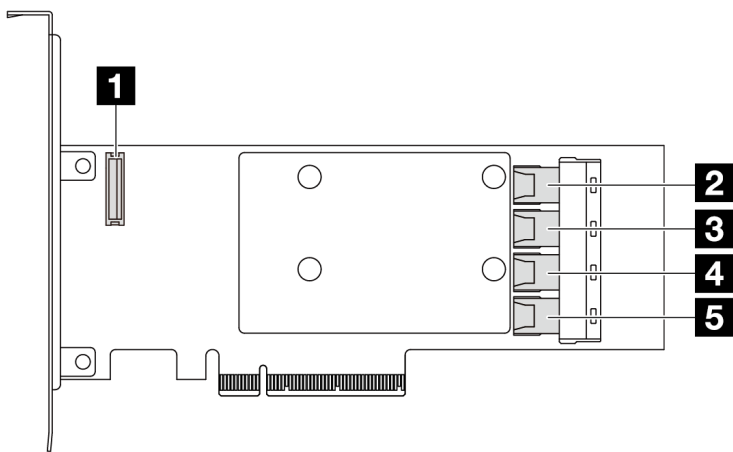

Figure 219. A Gen 3 16i SFF RAID/HBA adapter (four port connectors)
- Figure 219 “A Gen 3 16i SFF RAID adapter \(four port connectors\)” on page 255